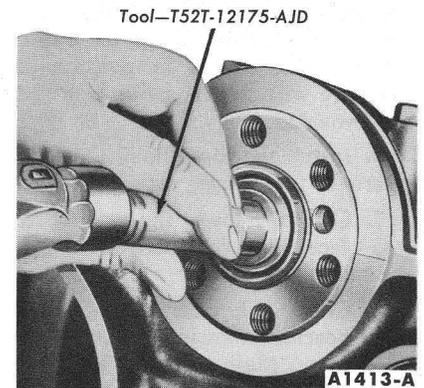

FIG. 88—Clutch Pilot Bushing Installation
11. Check the crankshaft end play by following steps 17 thru 19 under "Crankshaft Installation" (page 1-34). Install the clutch pilot bushing (Fig. 88).
38. Install the clutch pilot bushing (Fig. 88). Position the flywheel on the crankcase and install the retain-